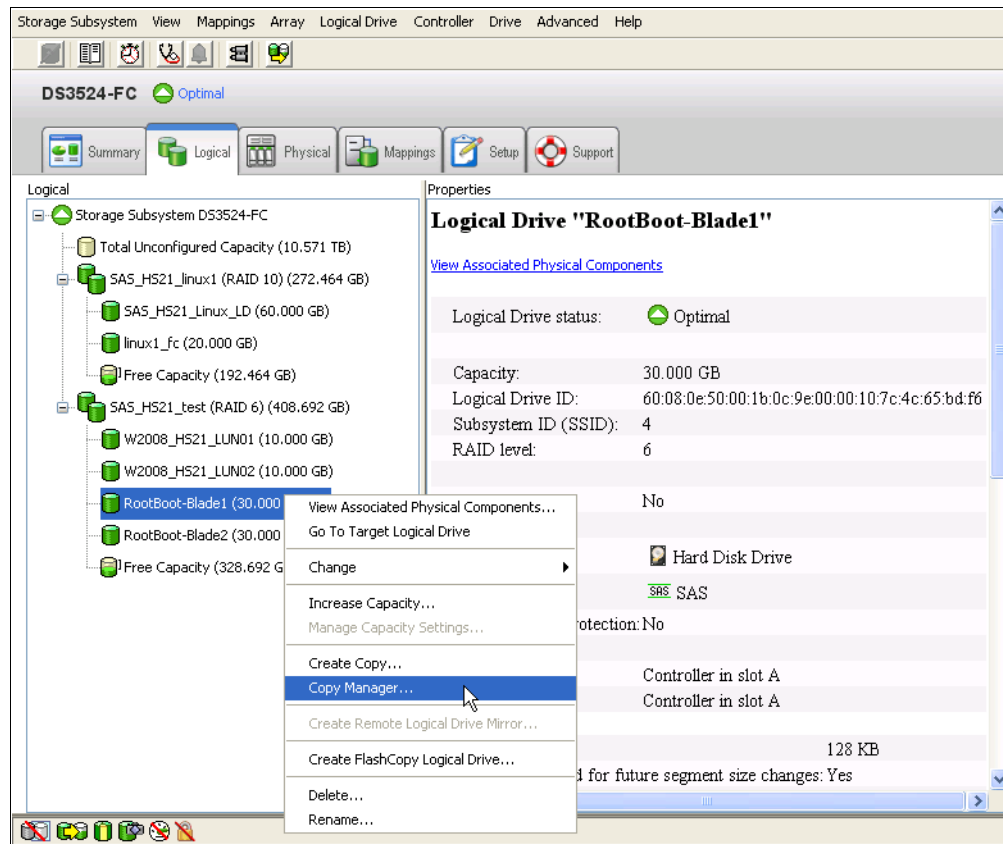

Figure 3-12 Launching the Copy Manager
1. Select **Logical Drive** → **VolumeCopy** → **Copy Manager**. (Or right-click and select **Copy Manager** from the pop-up menu, as shown in Figure 3-12).